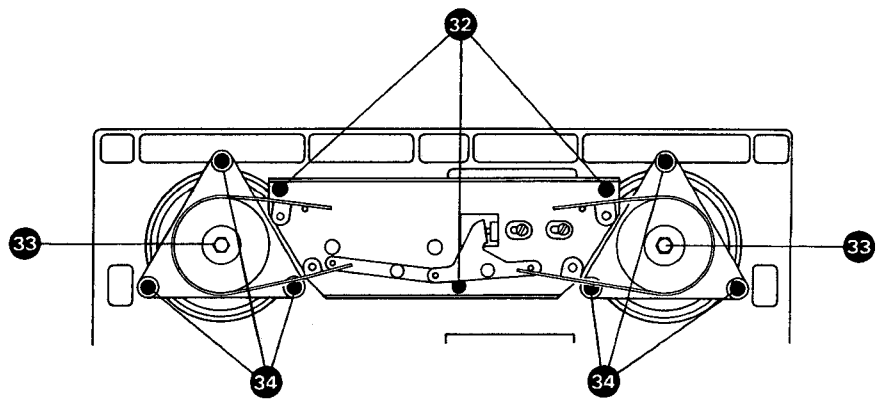

Fig. 3.11.-2
- 3 Schrauben (32) (Fig. 3.11. - 2) lösen.
- Take off reel supports after removal of 3 Phillips head screws (31) (fig. 3.11. - 1).
- Remove Centrally located screw (33) (fig. 3.11. - 2) from brake drum, lift brakes manually by activating the release mechanism and carefully pull brake drums from the motor shaft.